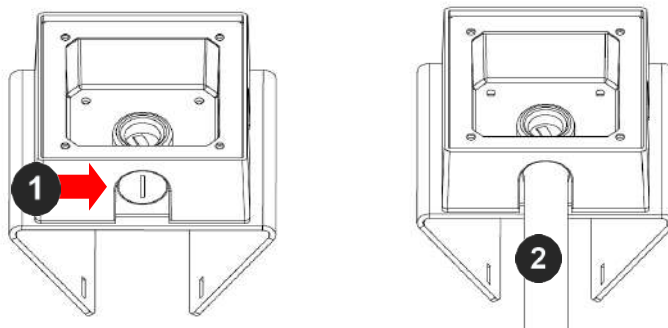

Figure 1: Attach conduit to AV-JBA junction box adapter
3. Attach the AV-JBA (Junction Box Adapter) to the Pole Mount Adapter (Figure 1).
4. Remove the conduit plug on the junction box adapter and connect $\frac{3}{4}$ " NPT conduit to the junction box adapter (Figure 1).